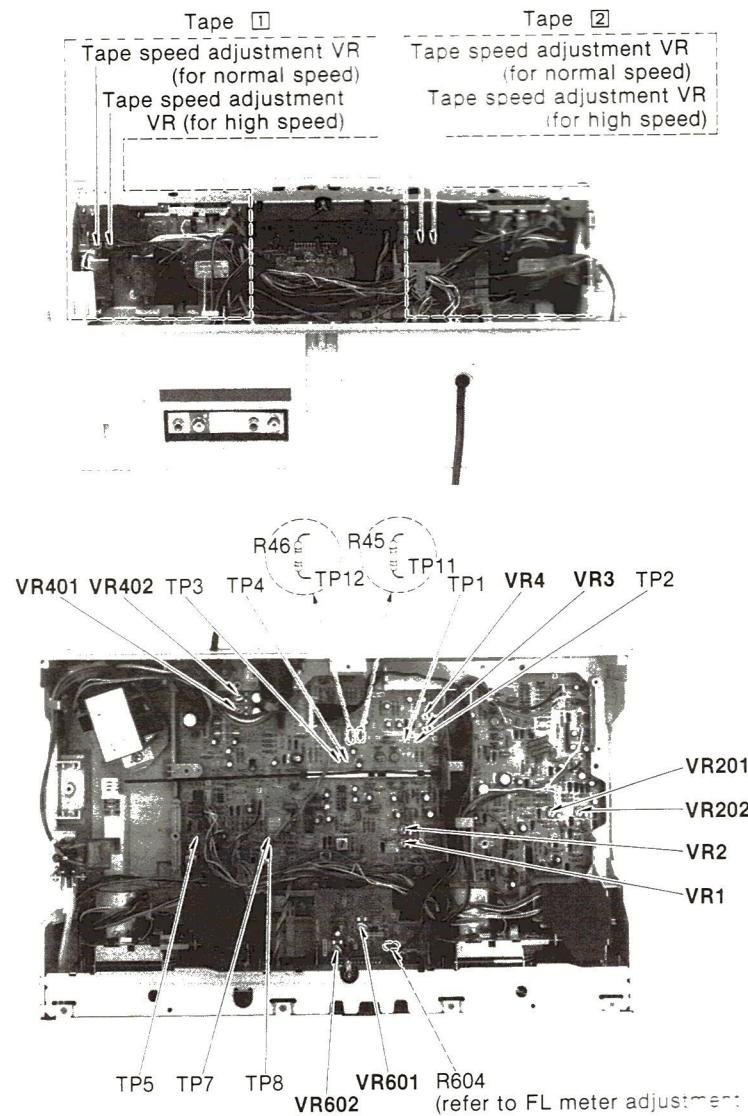

Fig. 1
<p>C Tape speed [TAPE ①, TAPE ②]</p> <p>Condition: • Playback mode • Dubbing speed switch ... Normal/high</p> <p>Equipment: • Digital electronic counter or frequency counter • Test tape ... QZZCWAT</p>	<p>Normal speed adjustment</p> <p>TAPE ①</p> <ol style="list-style-type: none"> <li>1. Make connections as shown in fig. 8.</li> <li>2. Set the dubbing speed switch to Normal.</li> <li>3. Play the test tape (QZZCWAT) with the TAPE ① head, and measure the playback signal frequency. If the playback signal frequency does not conform to the standard value, adjust the normal speed adjustment VR for the TAPE ① head (See fig. 1).</li> </ol> <div style="border: 1px solid black; padding: 5px; text-align: center;"> Standard value: TAPE ① (Playback deck: Normal speed)  <math>3010 \pm 45 \text{ Hz}</math> </div> <p>TAPE ②</p> <ol style="list-style-type: none"> <li>4. Play the test tape (QZZCWAT) with the TAPE ② head, and measure the playback signal frequency, and then adjust the normal speed adjustment VR for the TAPE ② head so that the playback signal frequency is 15 Hz lower than the output signal frequency after adjustment of TAPE ①.</li> </ol> <p>High speed adjustment</p> <p>Note: Perform high speed adjustment about 10 seconds after the start of motor rotation.</p> <ol style="list-style-type: none"> <li>1. Make connections as shown in fig. 8.</li> <li>2. Set the dubbing/mixing switch to off, and set the dubbing speed switch to high. Short between TP7 and TP8.</li> <li>3. Play the test tape (QZZCWAT) with the TAPE ① and measure the playback signal frequency. If the playback signal frequency does not conform to the standard value, adjust the high speed adjustment VR for the TAPE ① head (See fig. 1).</li> </ol> <div style="border: 1px solid black; padding: 5px; text-align: center;"> Standard value: TAPE ① (Playback deck: Normal speed)  <math>6020 \pm 90 \text{ Hz}</math> </div> <ol style="list-style-type: none"> <li>4. Play the test tape (QZZCWAT) with the TAPE ② head, and measure the playback signal frequency, and then adjust the high speed adjustment VR for the TAPE ② head so that the playback signal frequency is 30Hz lower than the output signal frequency after adjustment of TAPE ①.</li> <li>5. After high speed adjustment, remove the short between TP7 and TP8.</li> </ol> <p>Tape speed fluctuation</p> <p>TAPE ①, TAPE ②</p> <p>Make measurements in same manner as above (beginning, middle and end of tape), and determine the difference between maximum and minimum values and calculate as follows:</p> $\text{Tape speed fluctuation (Normal speed)} = \frac{f_1 - f_2}{3000} \times 100 (\%)$ $f_1 = \text{maximum value}, f_2 = \text{minimum value}$ $\text{Tape speed fluctuation (High speed)} = \frac{f_1 - f_2}{6000} \times 100 (\%)$